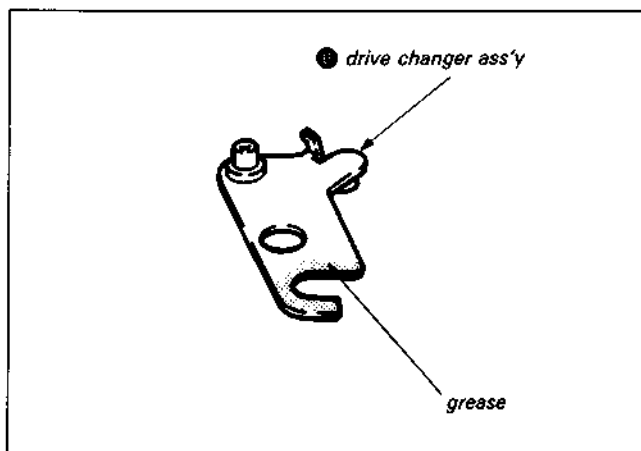
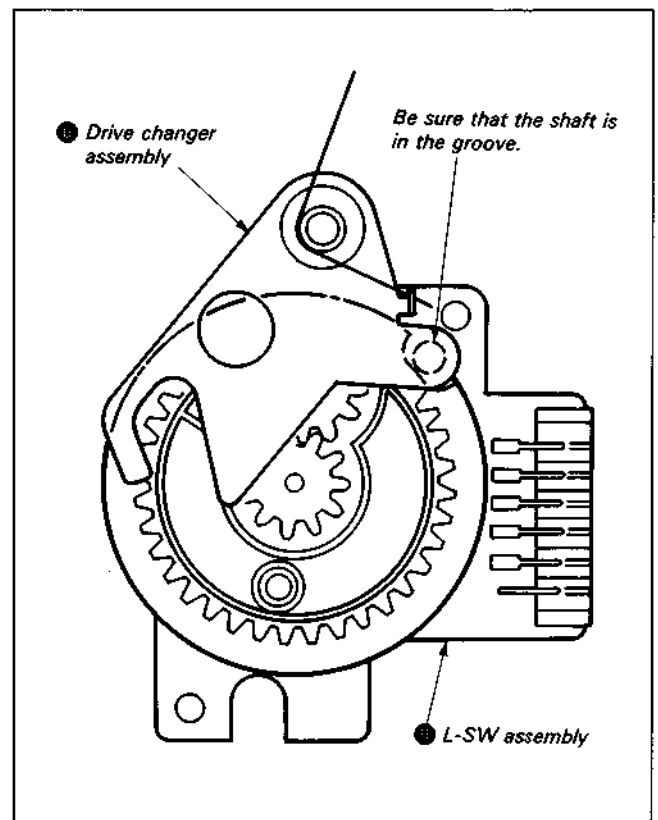

Fig. 7-34.
Fig. 7-35.
- 1) Place a half drop of oil on the L-SW assembly ④ spindle (planetary gear).
- 2) Mount L-SW assembly ④ and tighten with the two screws ⑤.
- 3) Connect connector ⑦.
- 4) Operate the mode selector and check that the L-SW assembly ④ rotates.
- 5) Place a half drop of oil on spindle ⑥.
- 6) Grease the drive change assembly ① as shown in Fig. 7-34.
- 7) Mount the drive changer assembly ②.
- 8) Mount the torsion spring ③ and the stopper washer ⑧.
- 9) Operate the mode selector and check that the L-SW assembly ④ rotates.
- 10) Mount lock slider A ⑨ and tighten screw ⑩.
- 11) Mount lock slider retainer ⑪.
- 12) Operate the mode selector and set to the position in Fig. 7-35.